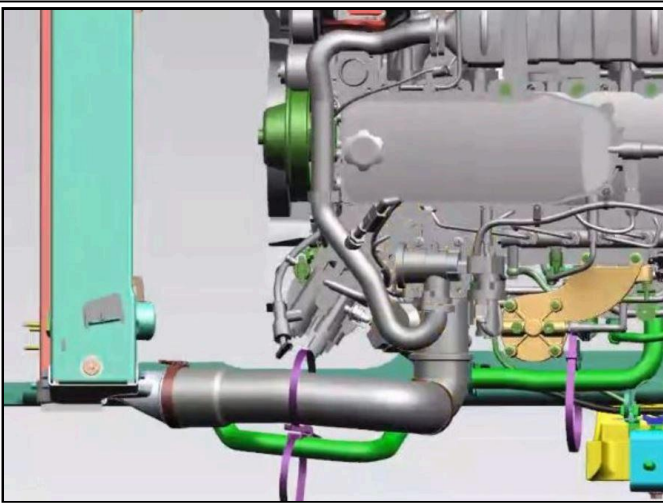

Figure 1: Top View - CAC pipe saddle & tie strap centered
1. Air Compressor Intake Hose clipping point on the CAC pipe shall be centered horizontally and securely fastened with a saddle & tie strap. (Figure 1)